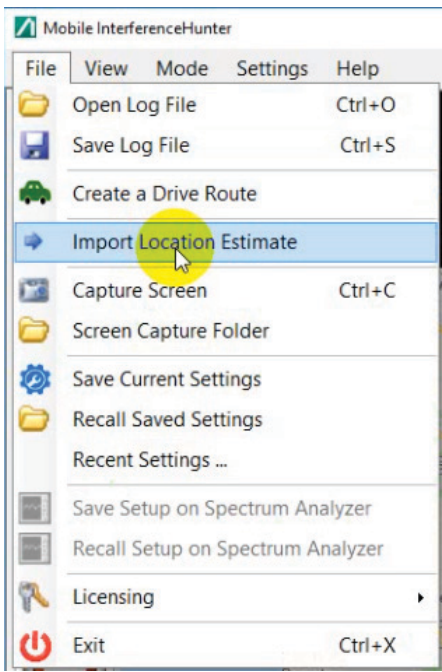

Figure 4-17. Import Location Estimate
1. Click Import Location Estimate from the file menu as shown in Figure 4-17.